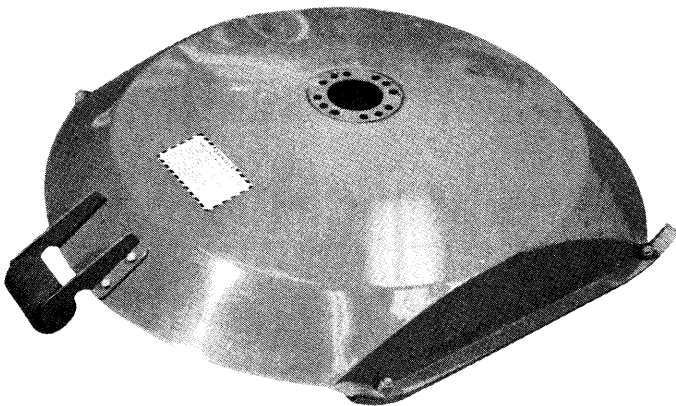

Fig. 3
2. Bolt the gauge roller assembly to mower deck with four bolts (item 6) and locknuts (item 7). See Fig. 3